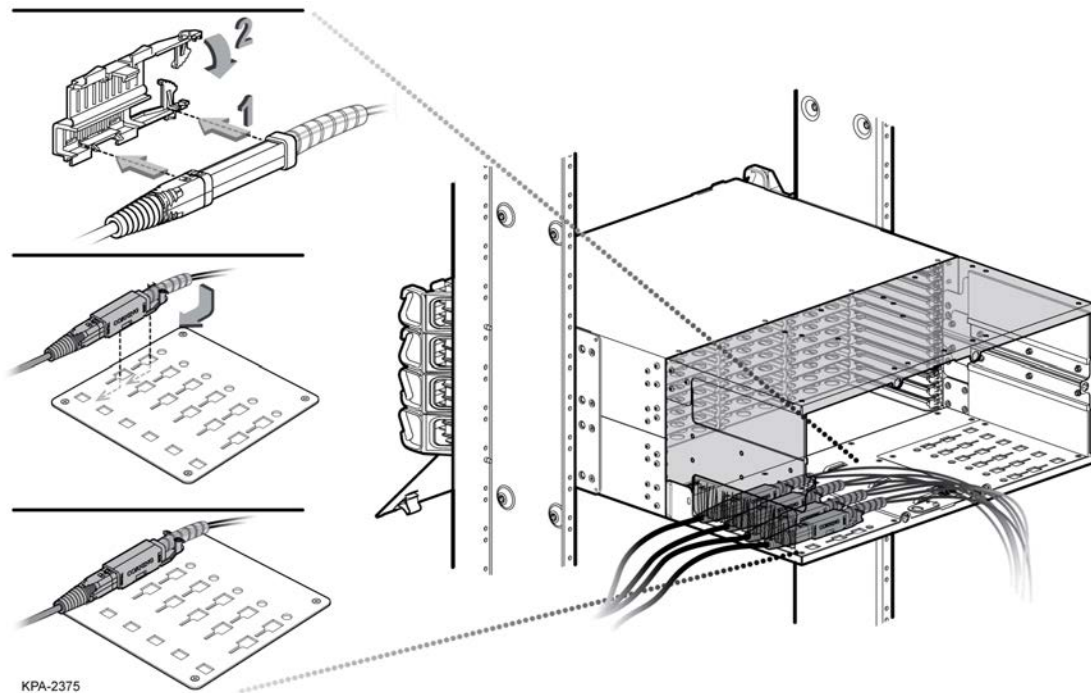
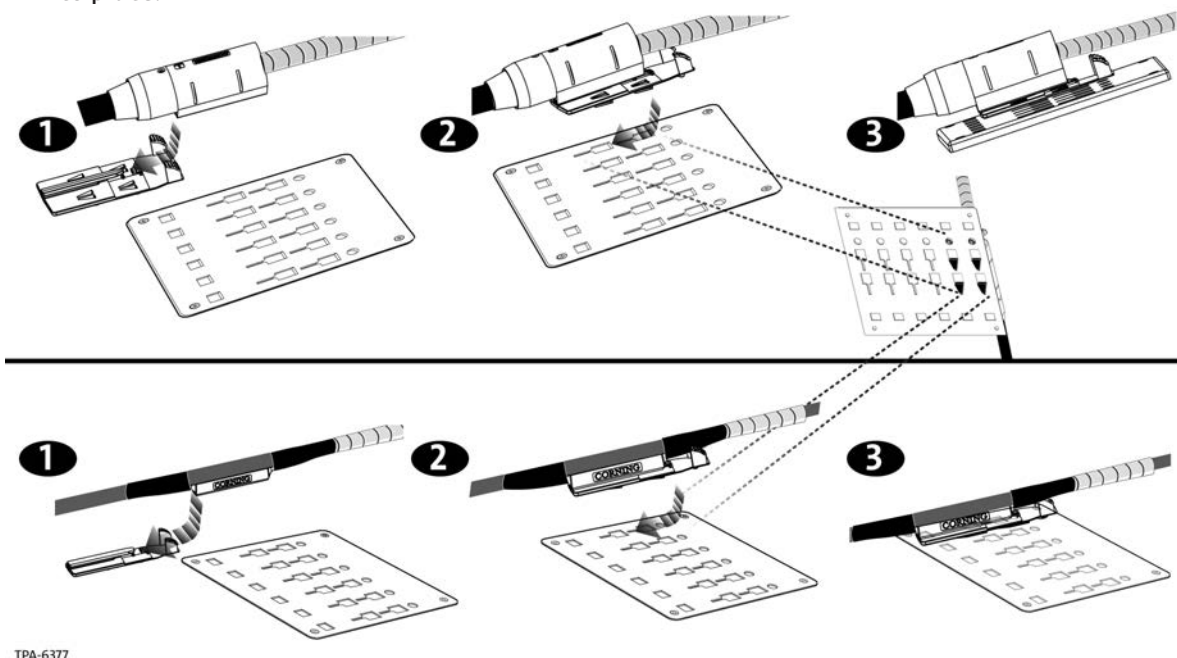

Figure 13— Install Trunk Cables with Keyhole Cradle
Figure 14— Install Trunk Cable with Keyhole Adapter
Step 3: Insert furcation plug into cradle as seen in Figure 12 or Figure 13 and mount cradle onto CDF bracket (Figure 11).
Step 2: Open cradle provided inside the reel and press each trunk cable furcation plug into cradle (Figure 12 - double-stack cradle or Figure 13 - single-stack cradle).
Step 1: Orient keyhole adapter to where leg side of trunk is near keyhole adapter release tabs (Figure 14).
Step 3: Insert cradle feet into backplate as shown in Figure 13 or Figure 14 for your cradle type.